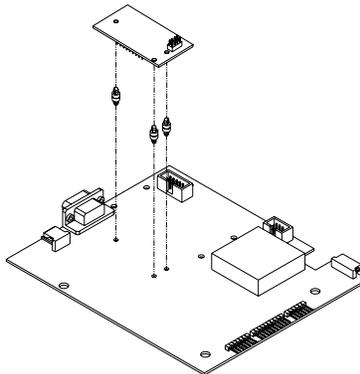

Figure 2-1: RS-485 / 20 mA Option Installation
4. Snap in the plastic spacers into the three mounting holes surrounding the U4 socket. Refer to *Figure 2-1*.